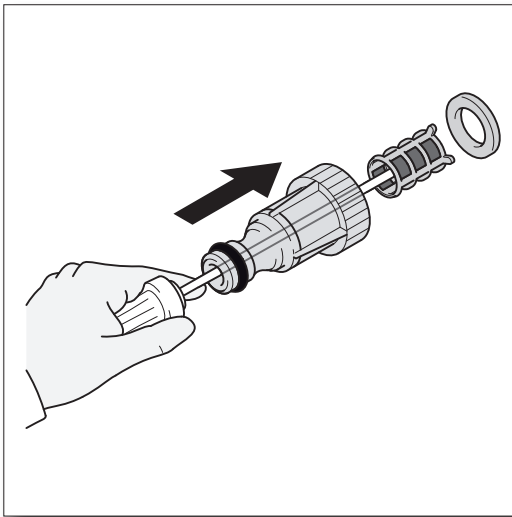

Fig. 21
- The screen inside the clear adapter should be cleaned periodically. Insert a pen or pencil in small hole at the end of the adapter. The screen filter will slide out (**Fig. 21**). Rinse it with clean water, and then place it back in the adapter..